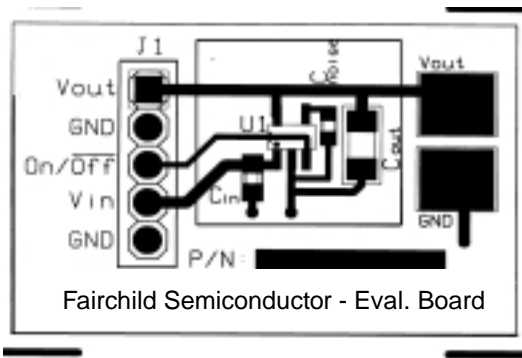

Figure 9: Recommended application circuit layout (not drawn to scale)
- Figure 9 shows how this circuit can be translated into a PCB layout.